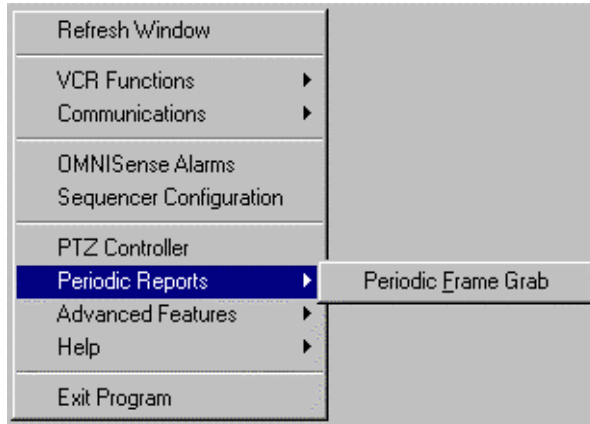

Figure 3.25 Periodic Frame Grab
2. Position the mouse in the video display area and click the right button to bring up the floating menu. Highlight “Periodic Reports” and click on “Periodic Weather Report” in the floating menu (Ref to Fig 3.25).